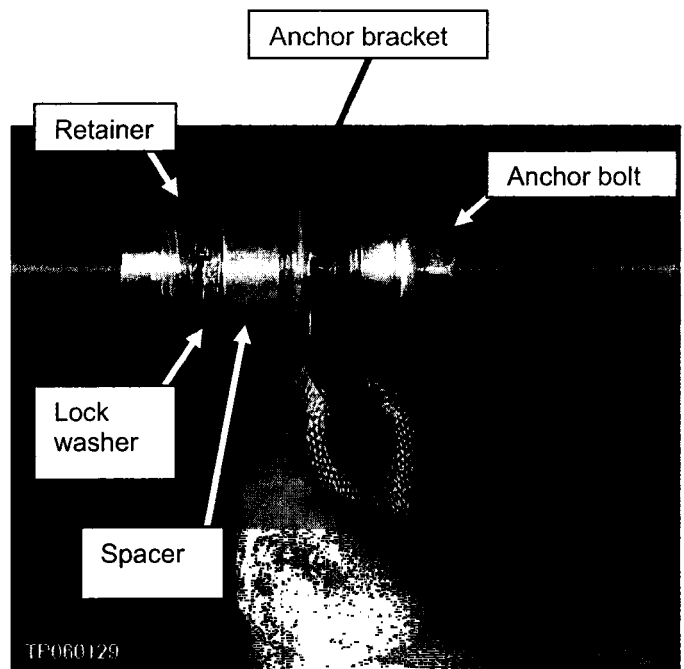

Figure 5
4. Remove the seat belt anchor bolt, spacer, lock washer, and retainer from the seat belt anchor bracket (see Figure 5).